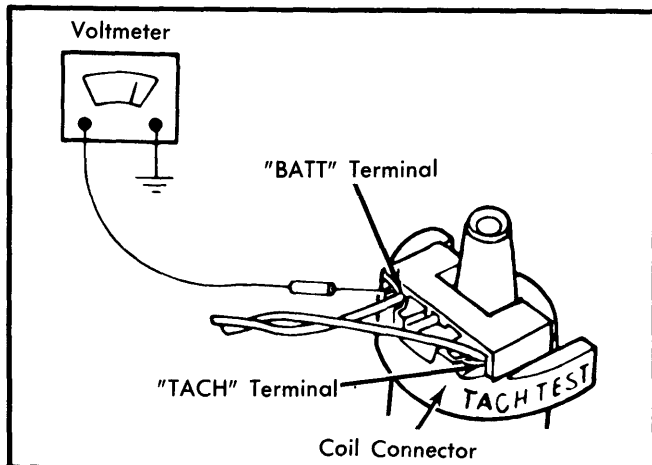
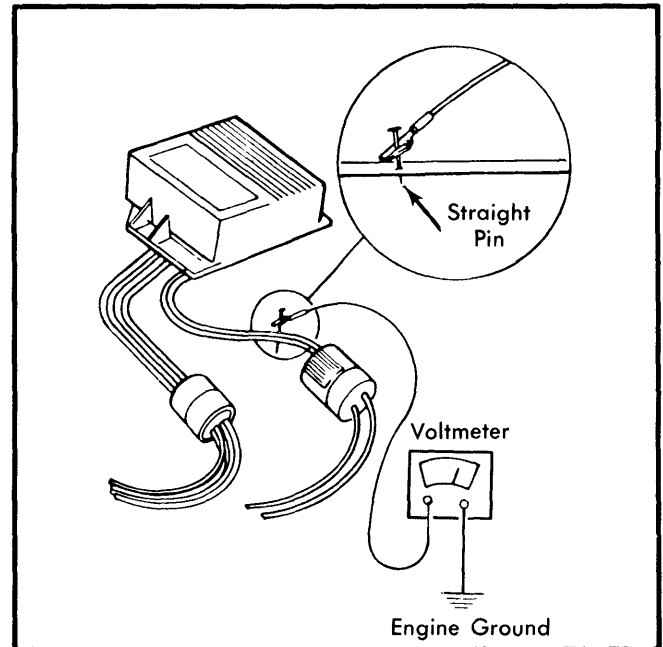

Fig. 6 Checking for Battery Voltage at Ignition Coil Positive ("BATT") Terminal
Fig. 7 Checking Control Module Run and Start Circuits with Voltmeter
1) Turn ignition switch to "RUN" position. Connect positive lead of voltmeter to ignition coil positive ("BATT") terminal. Attach negative lead to a good ground. See Fig. 6. Turn ignition "OFF" after reading voltage.
1) Insert a straight pin through red wire of ignition module 2-wire harness (between module and connector). See Fig. 7. Attach positive lead of voltmeter to straight pin and negative lead to a good engine ground. Do not allow straight pin to contact ground.
2) Hold ignition switch in "START" position. Connect voltmeter positive lead to ignition coil positive ("BATT") terminal and negative lead to ground. See Fig. 6. Take reading. Then insert a straight pin in white wire of ignition module 2-wire harness (between module and connector). See Fig. 7. Attach positive lead of voltmeter to pin, with negative lead still grounded. Again, do not let pin touch ground. Turn ignition switch "OFF" and reattach starter relay wires.